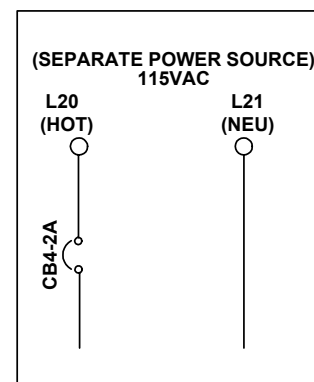

Figure 2-3
- B. The second circuit required common to all drive types (**for the 1st controller of each group only**) is a separate independent emergency backed single phase 120 VAC circuit for North America and 230 VAC circuit for the remainder of the world to supply power for the hall call circuitry. This circuit should also be a 15 amp fused circuit. [See Figure 2-3.]